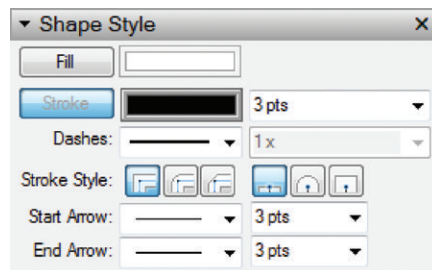

Figure 13.3 Use the Shape Style settings to create the margin lines.
1. Activate the Line tool, set the stroke width to 3, and turn off the Fill. Click once to start the line at the top-right corner of the margin (Figure 13.3).